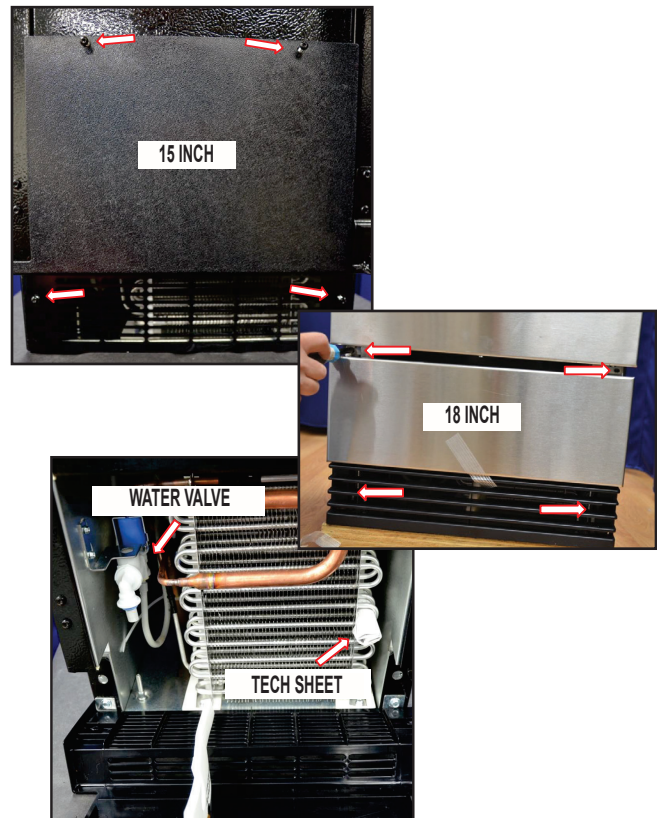

FIGURE 2
2. To access the water valve and tech sheet start by removing the 4 screws holding grille. Pull out on the bottom of the grill and then down. See *Figure 2*.